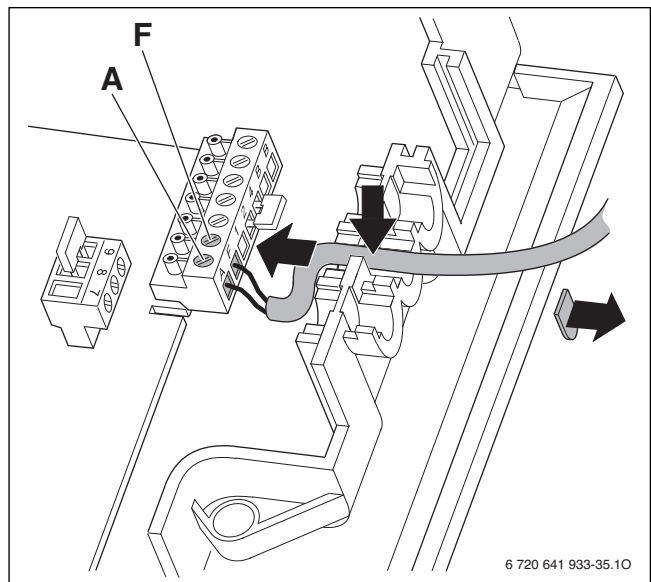

Fig. 39 Electrical wiring outdoor temperature sensor
- ▶ Connect cable of the outdoor temperature sensor according to Fig. 39.